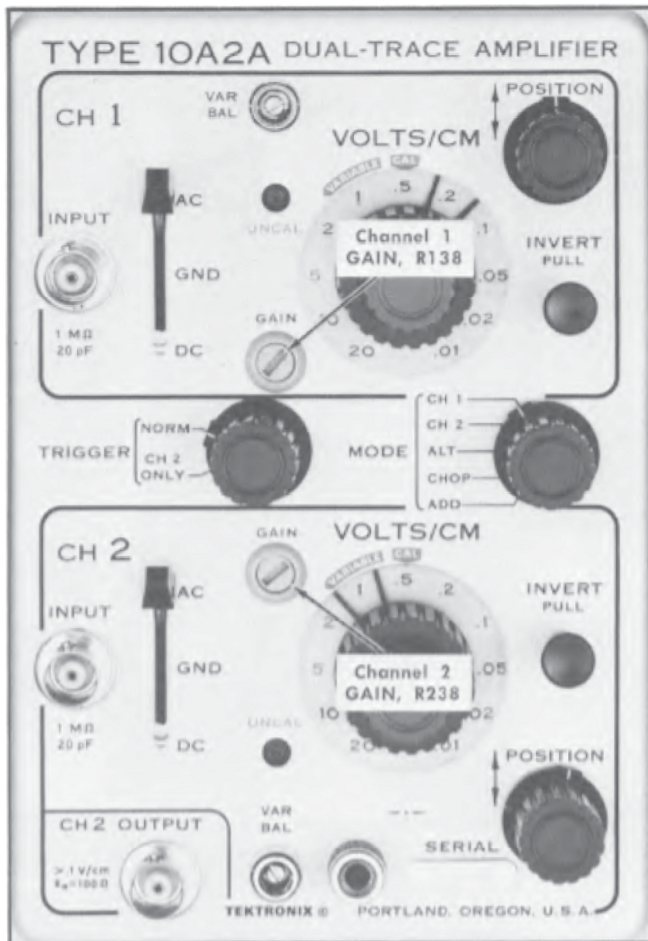

Fig. 6-7. Location of channel 1 GAIN control, R138 and channel 2 GAIN control, R238.
- f. Rotate the Type 10A2A channel 1 front-panel GAIN control (see Fig. 6-7) from one extreme to the other.
- c. Rotate the Type 10A2A channel 2 front-panel GAIN control (see Fig. 6-7) from one extreme to the other.